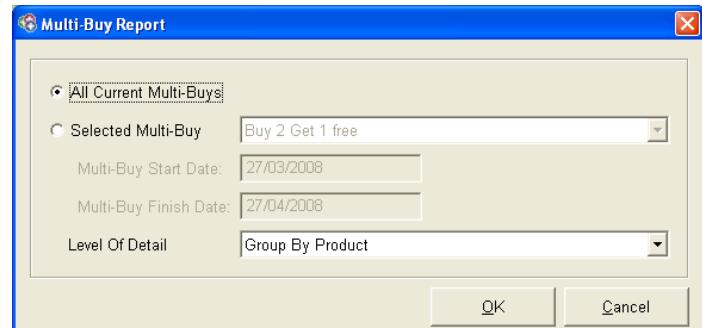

Figure 356
2. This will display the 'Multi-Buy Report' window (see Figure 356).